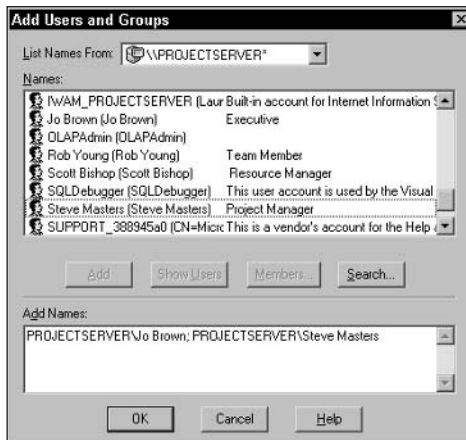

Figure 19-59: Select users to add to a role.
5. Enter the name of the role in the Role name box, and then click Add on the Membership tab to open the Add Users and Groups dialog box (see Figure 19-59).